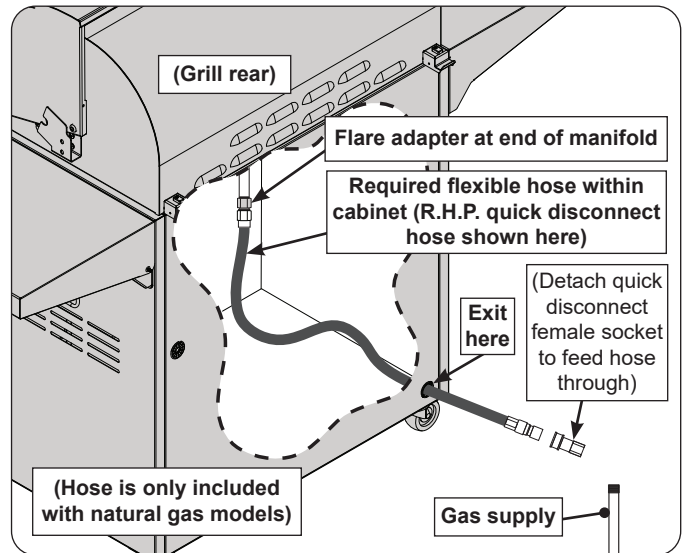

Fig. 18-1 Flexible hose assembly detail
2. **Household propane only:** A regulator hose assembly designed for L.P. cylinders comes pre-installed to the unit valve manifold. First remove this assembly from the flare adapter (at end of manifold), and then install a quick disconnect hose or similar (purchased separately) to the adapter. (An R.H.P. quick disconnect hose is recommended - see third bullet above.) Use a pipe joint compound resistant to all gasses on all NPT pipe fittings **except flare fittings**. Reference Fig. 18-1. Then proceed to step 3.
3. Route the quick disconnect hose (or similar) out of the hole in the rear bottom right of the cabinet, and to the gas supply (see Fig. 18-1).